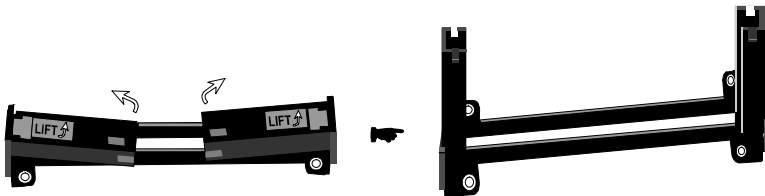

Figure 18
- ❶ First, please refer to figure 18 below, and follow the direction to lift up the fixed foldable pentium® II/III Retention Mechanism. This pre-installed device is designed for you to install Pentium® II/III CPU more easier and to avoid any damage on the board due to overtightening the four screws.
- ❷ One thing must be kept in your mind that please make sure to lift upright the foldable parts of the Retention module to fit and install CPU properly.